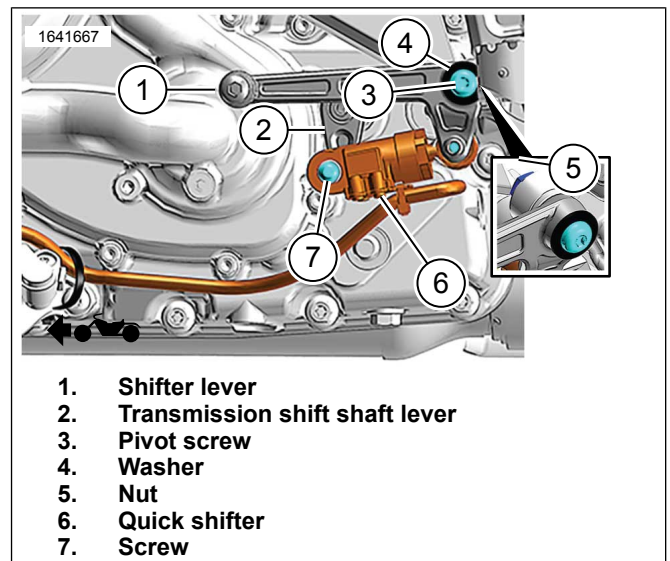

Figure 6. Quickshifter Install
See Figure 6. Assemble shifter lever (1) and quick shifter (6) to frame boss with screw (3), washer (4) and nut (5). Tighten.